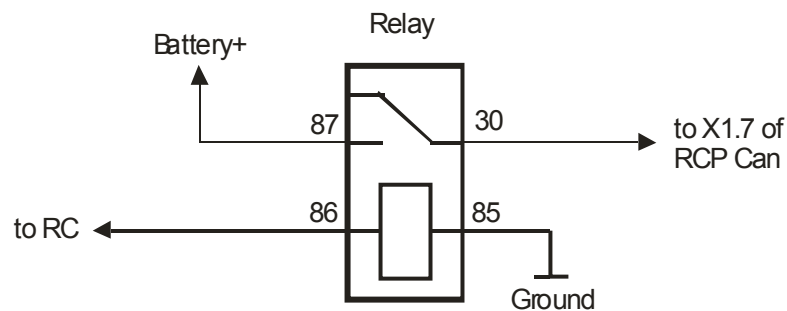

Figure 7
- The inputs are intended for connection of specialized remote controls such as DEFA Smart Start, Hydronic Easy Start, Webasto Telestart. If direct connection of remote control's output line to an input is not functional, the scheme at the fig.7 can be applied.